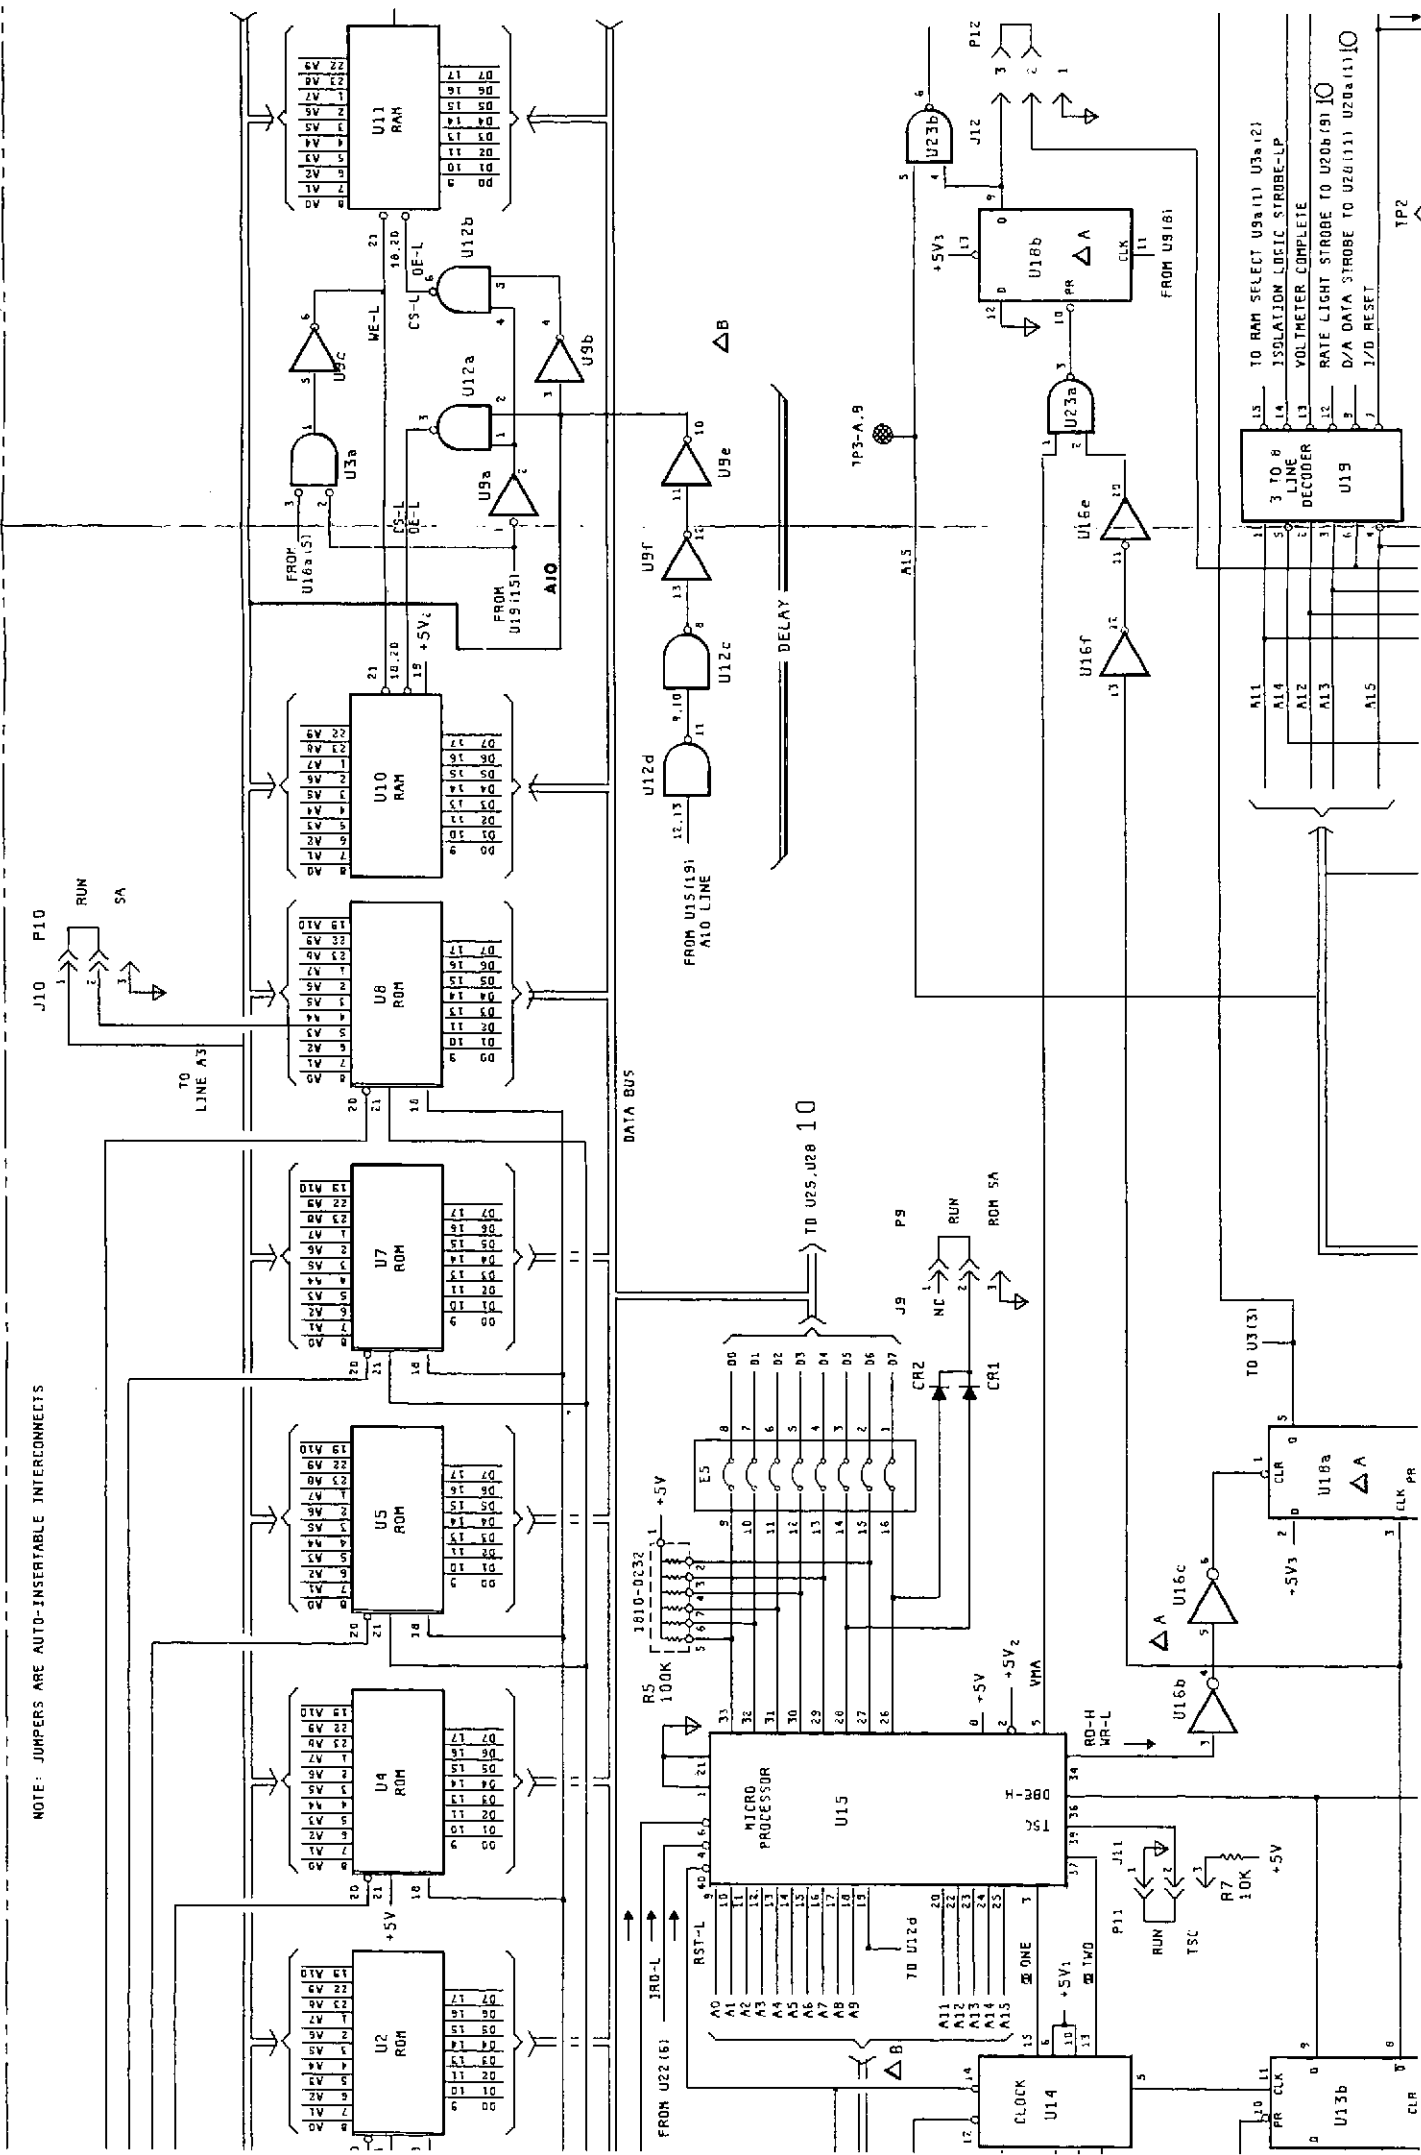

Figure 7-3. Change #3 on Schematic 9
e. Page 8-83/8-84, Figure 8-70 (Schematic 9, Main Controller Schematic). Change Address Line A10 connection as shown in Figure 7-3.